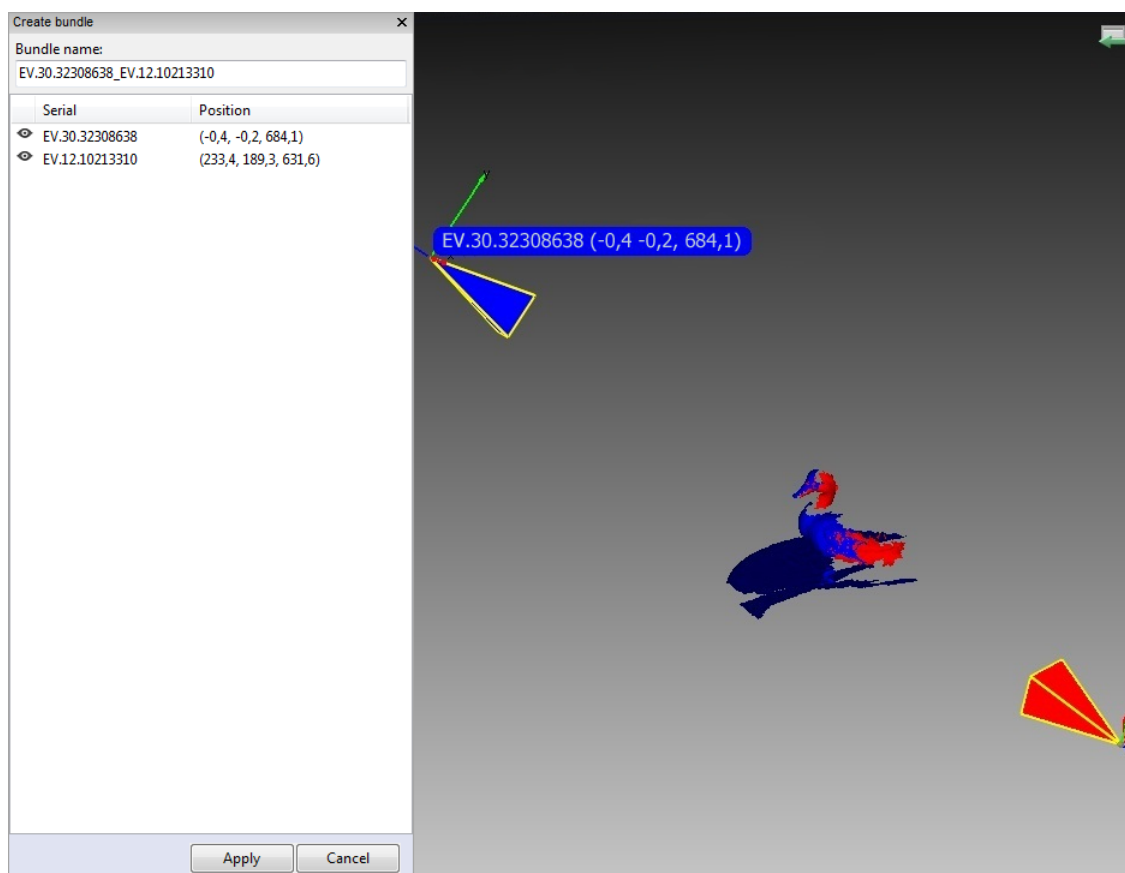

Figure 175: Bundle-creation window.
7. From the menu, select *File* → *Create bundle*. A warning message will appear if you forget to align the scans. Otherwise, the bundle-creation panel will appear (see Figure 175). The *3D View* window will show the selected scans, the position and viewing direction of the scanners (by means of an appropriately colored pyramid), the device ID, and the scanner coordinates. It will display a list of connected devices and corresponding information.